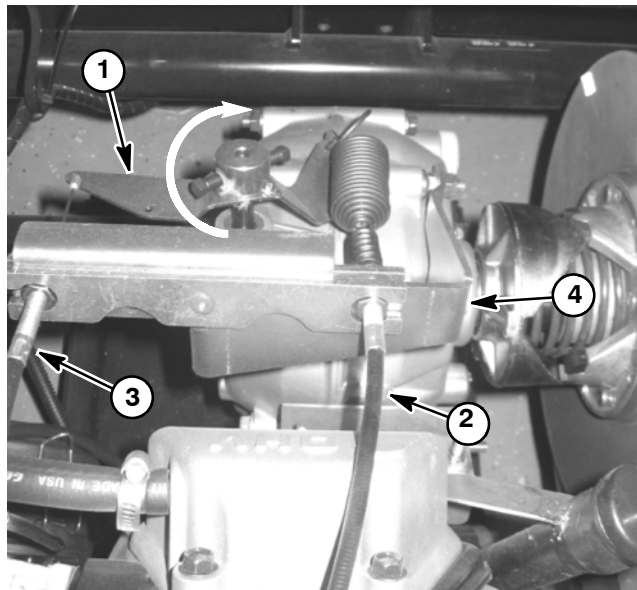

Figure 1
3. Rotate governor arm on transaxle fully clockwise (Fig. 1).
- B. Adjust governor cable at the transaxle cable bracket as necessary, so there is no compression of the cable (Fig. 1). This will allow the throttle lever to fully close when the accelerator pedal is released.